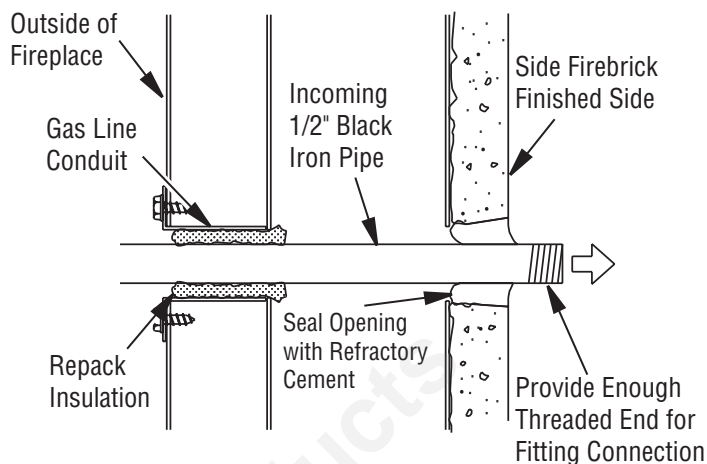

Figure 29 - Gas Line Installation
3. Run a 1/2" black iron gas line into fireplace through rear at gas line conduit sleeve (if using a raised platform, add height). Provide sufficient gas line into fireplace chamber for fitting connection (see **Figure 29**).